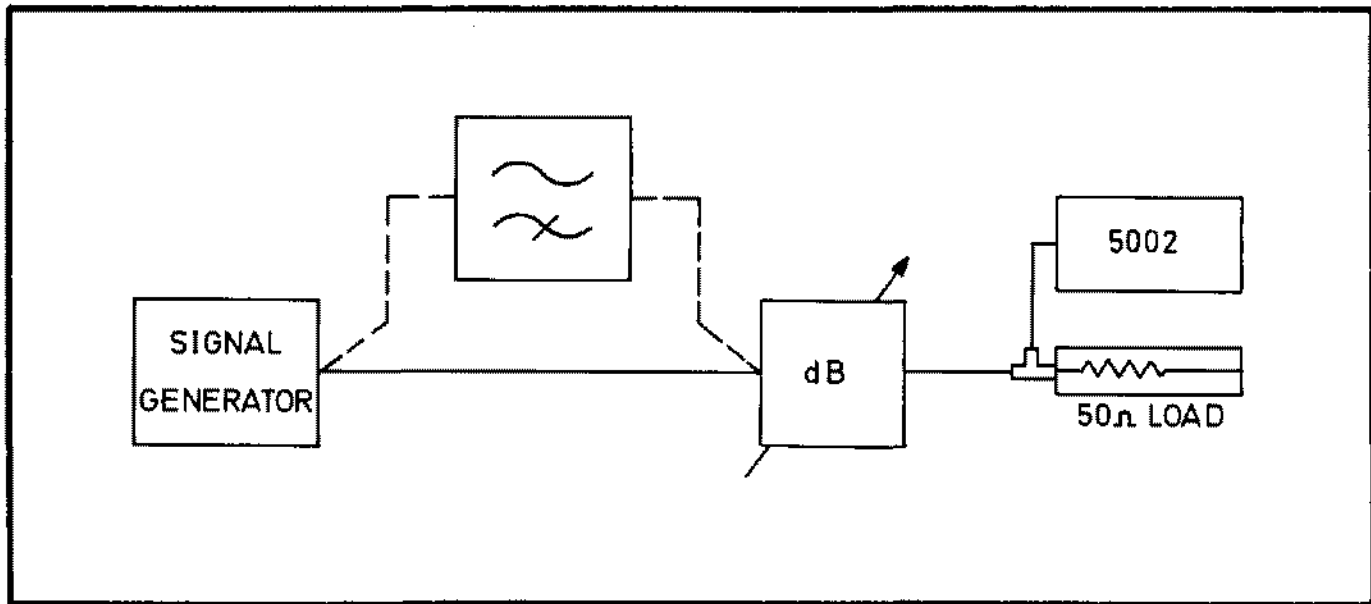

Fig. 6.9 Mean and Peak Detectors Check
6.5.15.2 Connect the test equipment as shown in Fig. 6.9. The low pass filters are required for the peak detector check only.